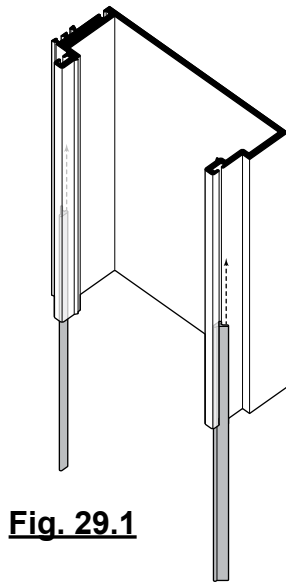

Fig. 29.1
- D. Install P4630 wiper gasket continuous into the front and back of each male vertical member. Crimp ends of mullion at wiper gasket to lock into place. See **Fig. 29.1**.